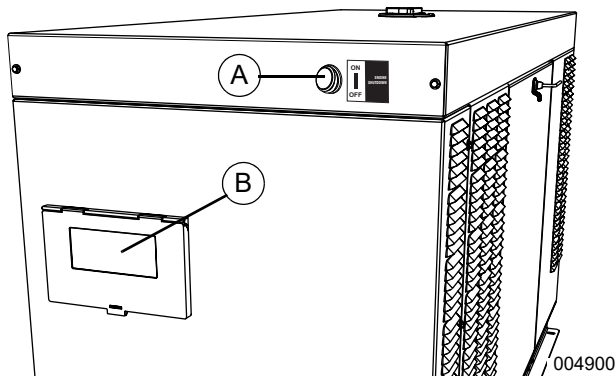
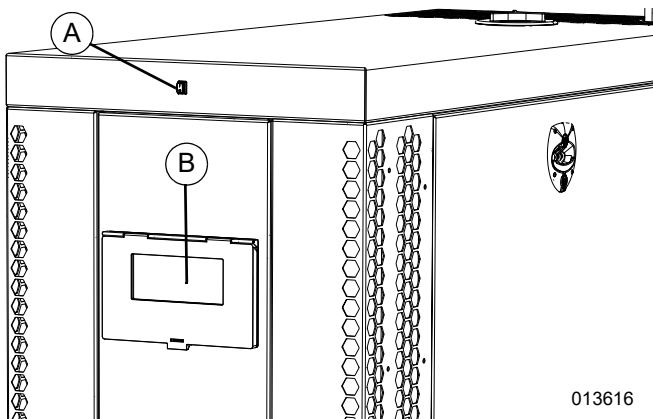

Figure 3-12. Auxiliary Shutdown Switches RD Units
Figure 3-13. Auxiliary Shutdown Switches RA Units
See Figure 3-12 and Figure 3-13. Generators 15 kW and larger are equipped with two auxiliary shutdown switches. One auxiliary shutdown switch (A) is located on the generator roof. The second auxiliary shutdown switch (B) is inside the control panel enclosure.